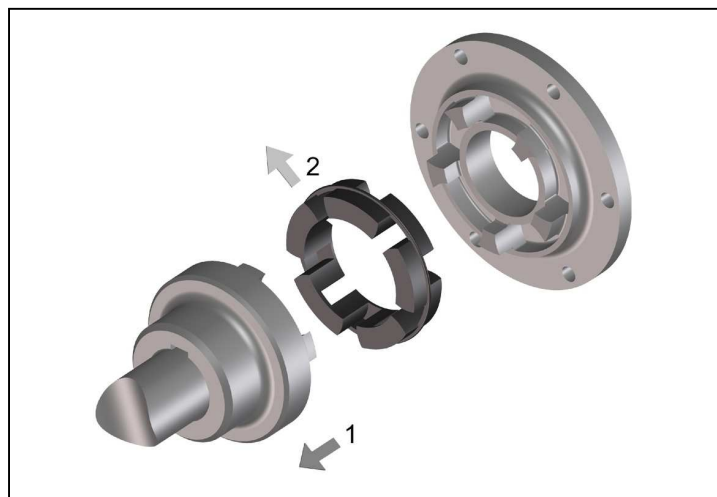

Fig. 11
- Pull back the shaft with mounted coupling hub (Figure 11, Pos.1).
- Remove the intermediate ring (Figure 11, Pos.2).